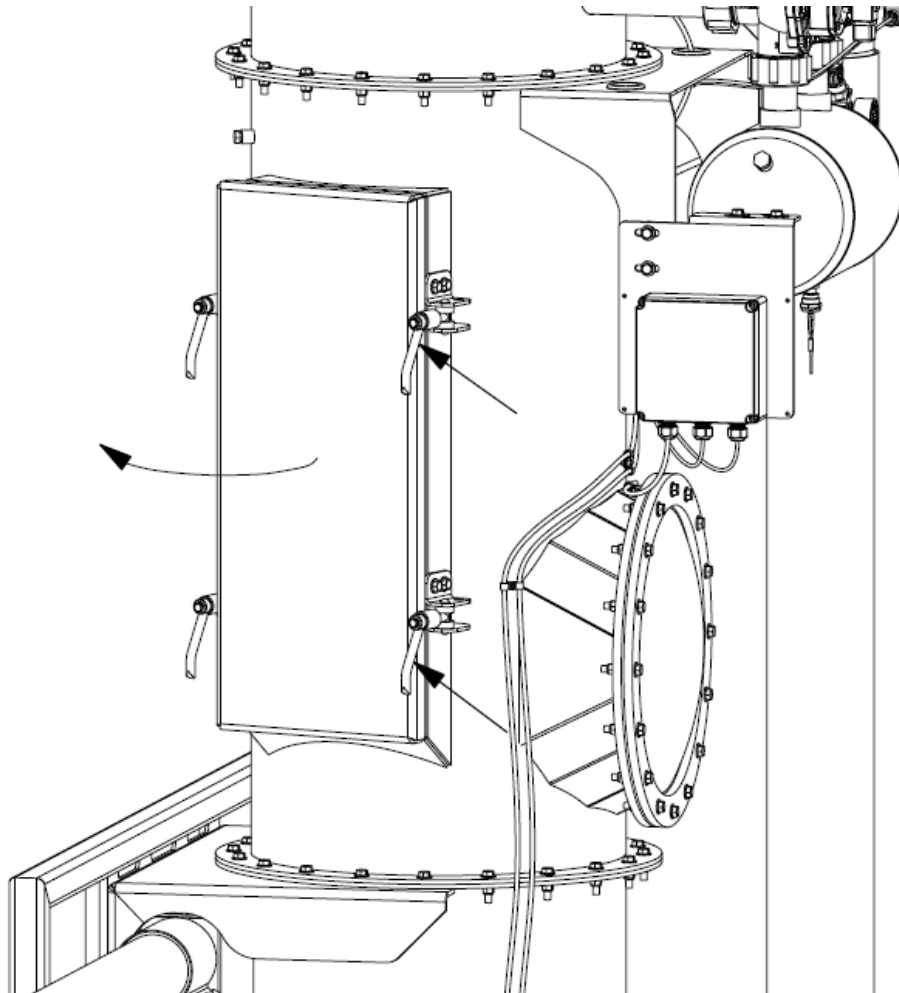

Figure 7-20: Opening of filter access door
11. Close the filter access door and secure it in place by installing and tightening all locking handles, refer to **Figure 7-20**.